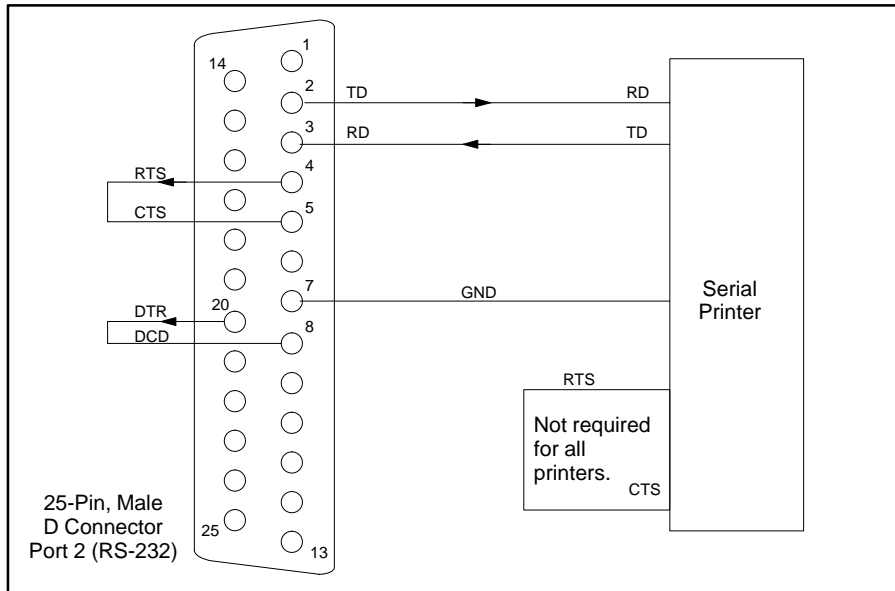

Figure 6-25 575 XON/XOFF Printer Handshaking
- XON/XOFF printer handshaking; see Figure 6-25.